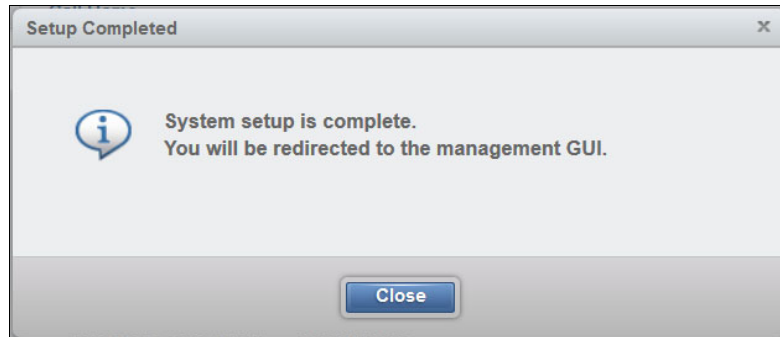

Figure 6-21 Setup wizard completion window
3. You are redirected to the management GUI, click **Close** to continue (Figure 6-21).